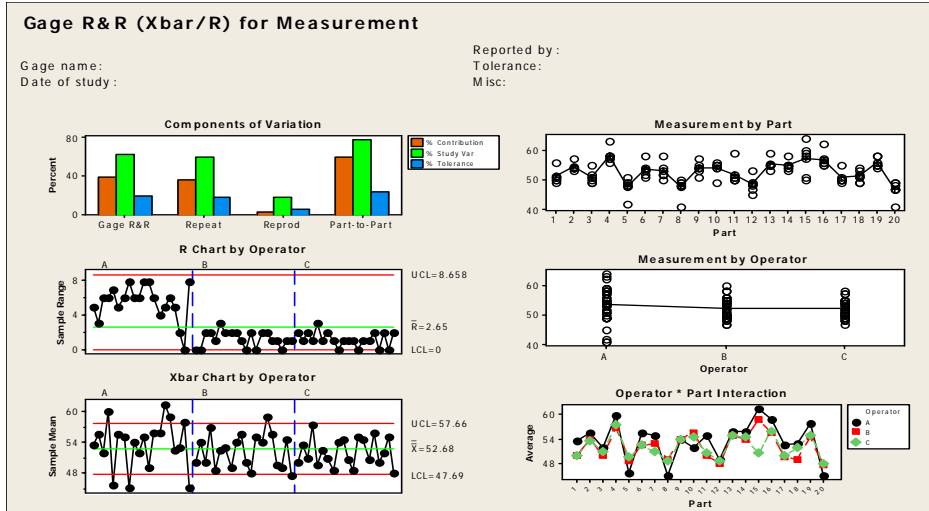

Figure 7.15: Plots using Gage R&R (Crossed): XBar and R Method of Data in GAGE1B.MTW
The results shown in Table 7.14 are displayed on the session window. The plots are shown in Figure 7.15.
**INTERPRETATION OF PLOTS IN FIGURE 7.15**